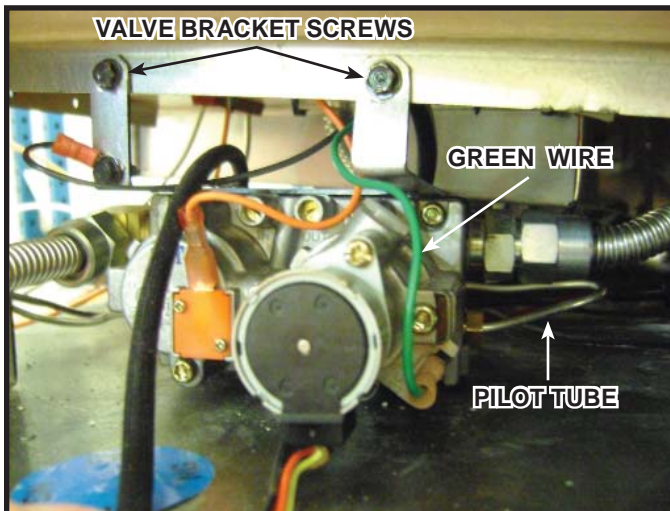
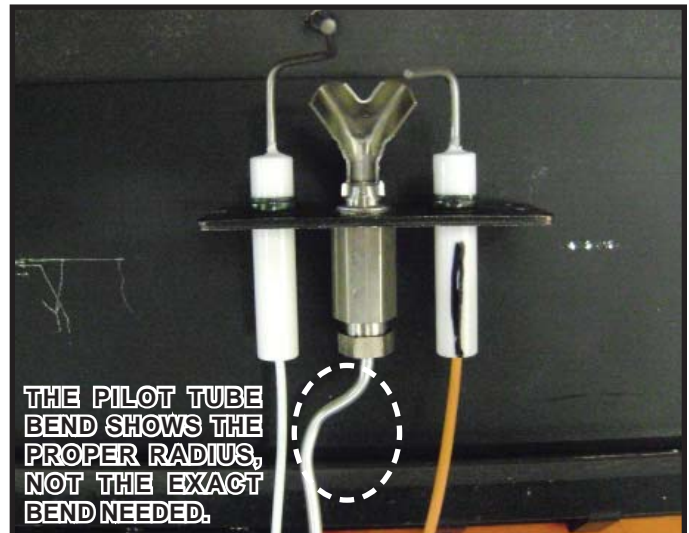

Figure 5. Gas Valve Access
Figure 7. Proper Pilot Tube Bend Radius (No Sharp Bends)
5. Unplug the green wire from valve. See Figure 5.
9. Remove two screws from the valve bracket to gain access to the pilot tube. See Figure 5.
10. Unscrew the pilot tube from the valve. See Figure 5.
15. Connect pilot tube to the valve assembly. See Figure 5. Ensure the pilot tube does not bend excessively causing a kink in the pilot tube. See Figure 7.
18. The pilot tube may need to be bent before installation. See Figure 7. The grommet may not be centered with the pilot tube.
22. Turn on fireplace with the green wire disconnected. See Figure 5.
33. Reattach the green wire. See Figure 5.